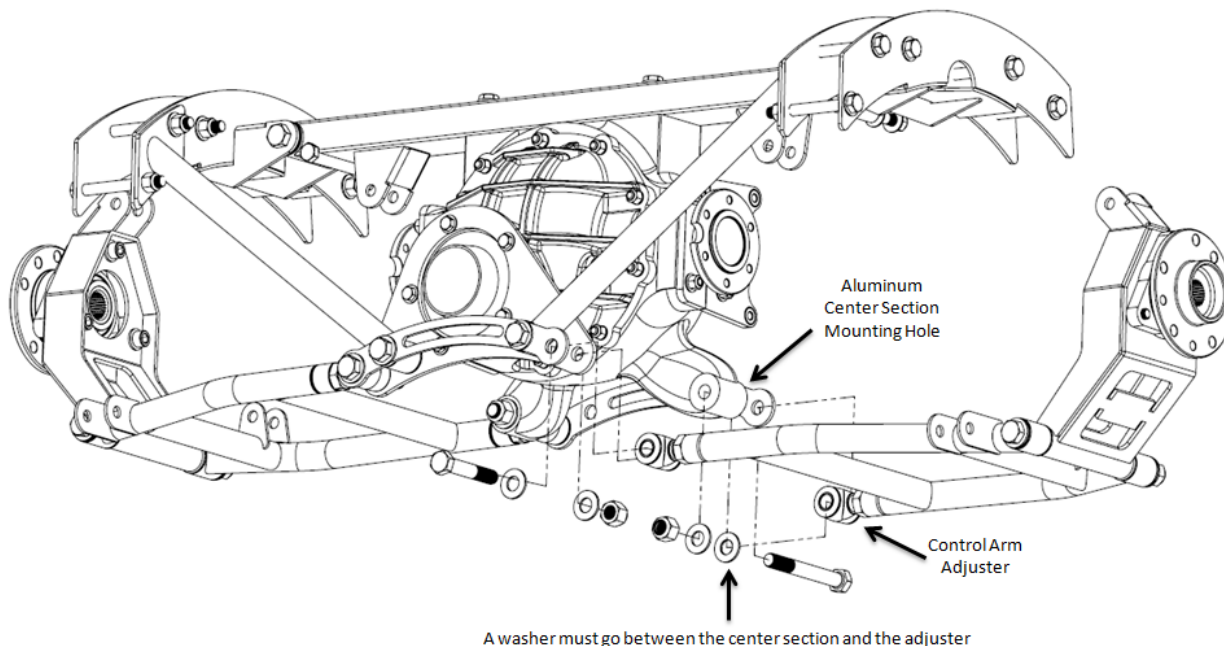
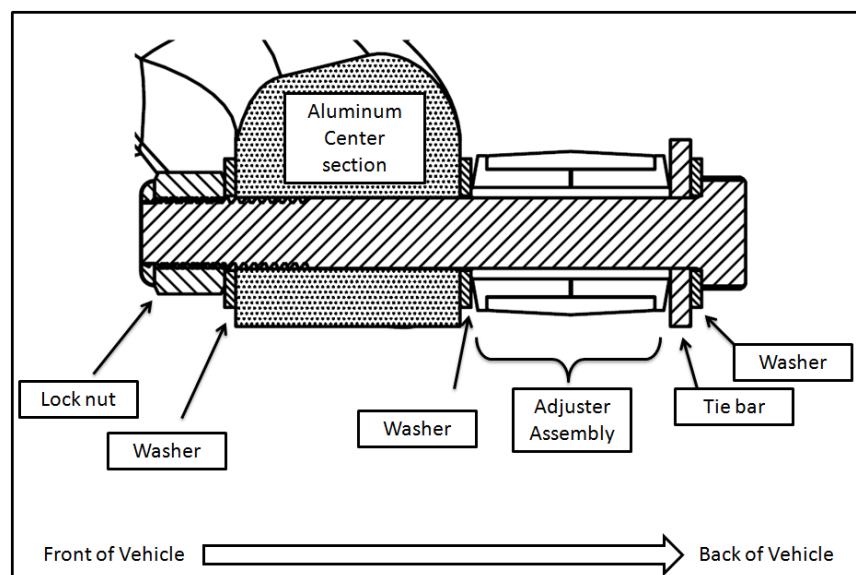

Figure 10. Exploded view of the driver side lower control arm assembly being installed.
Figure 11. Cross Section of Rear Lower Control Arm Joint
- 16) Install the lower control arms to the housing and the pinion plate with the tie bar at the front and rear as shown in Figure 10 using the 5/8" bolts, nuts and washers supplied. One tie bar will be in front of the forward control arm mount, and the pinion support will be behind the forward control arm mount as shown. The second tie bar will be behind the rear control arm mount as shown in Figure 11. Be certain to use washers between the rear adjusters and the housing. Do not tighten the bolts and nuts yet, as the camber is adjusted here by turning the adjusters in or out. The arms should be set with the adjusters with an equal amount of thread showing to make the arms straight out and parallel for now.